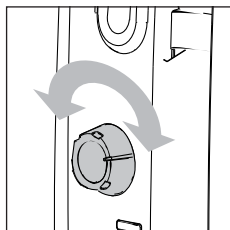

fig. 4
3. Plug the appliance into the mains socket, set temperature control dial to the required temperature (fig.4). When set temperature set has been reached, the indicator light will go off.